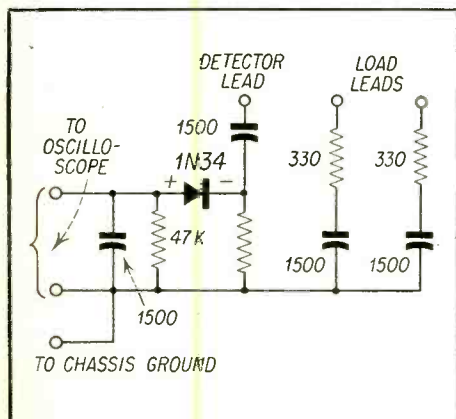

Fig. 5—IF test block.
5. IF test Block (See Fig. 5).